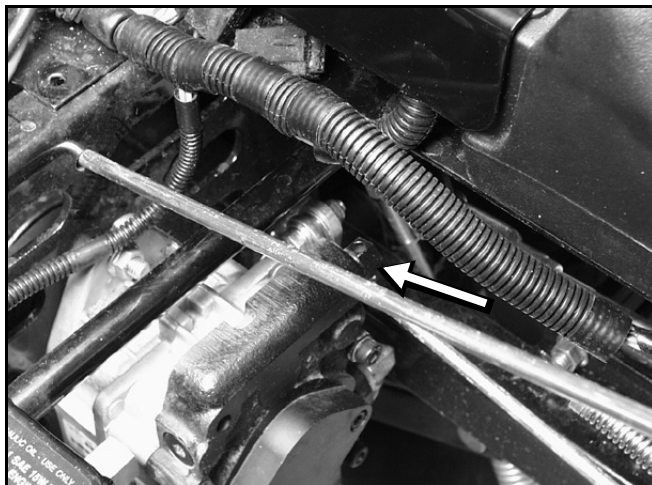

Figure 62
2. Remove the control rod from the trunion lever (Figure 62).